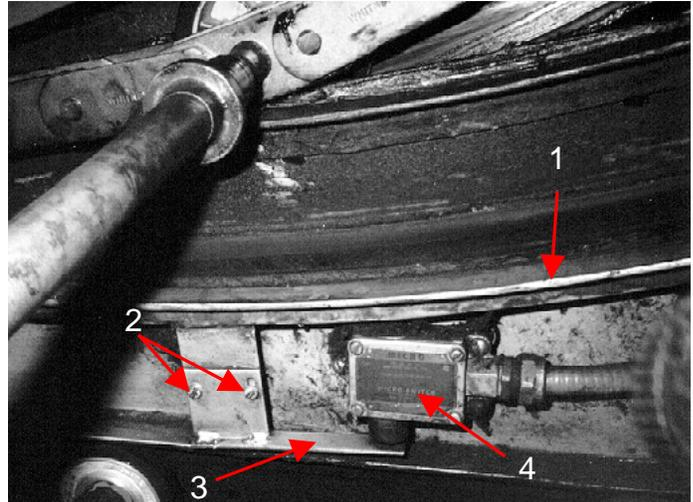

Figure 8-10e Westinghouse Escalator
38. To get one point, match all the parts below with the numbers in figure 8-10e.
39. What is the clearance between part #3 and the plunger of part #4 in figure 8-10e?
40. How would you set the clearance between part #3 and part #4 in figure 8-10e?
41. What will happen in figure 8-10e if the steps at the lower curve were jammed? The step ____.